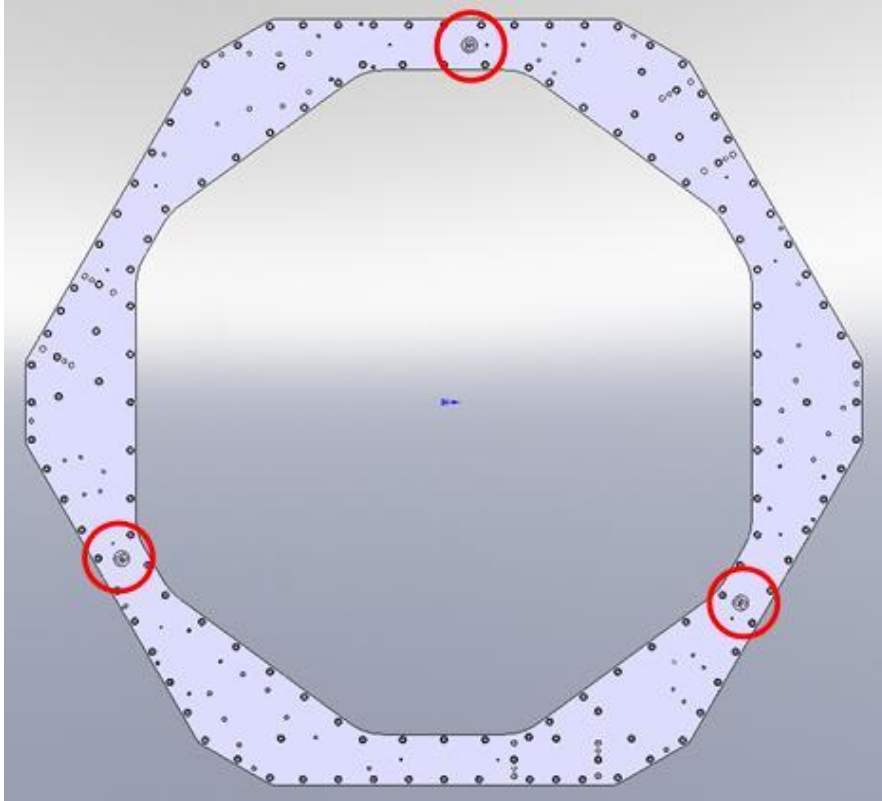

Figure 20 Location for washers and positioning posts of the Optical Table on Stage 0
- Set D1001111 Stage 0-2 alignment Washers (Item (2) Figure 17 onto Stage 0 holes circled in red on Figure 20 Location for washers and positioning posts of the Optical Table on Stage 0.